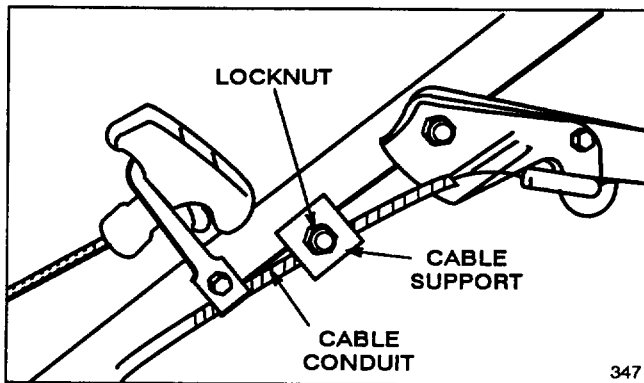

Figure 24
3. ADJUST CABLE CONDUIT—Loosen locknut on cable support (Fig. 24). Insert  $1/8"$ – $3/16"$  object between brake lever and handle. Pull down on cable conduit until slack is removed. Then tighten locknut.